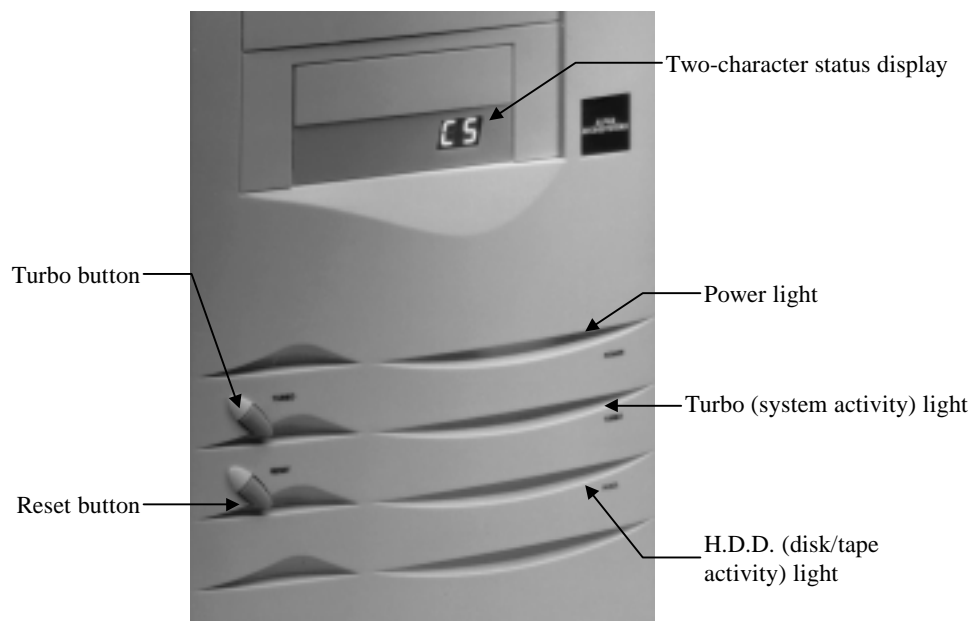

Figure 2-1: Front Panel Controls and Indicators
- The Power switch, at the top right of the computer, turns it on and off. This switch is not shown in Figure 2-1.